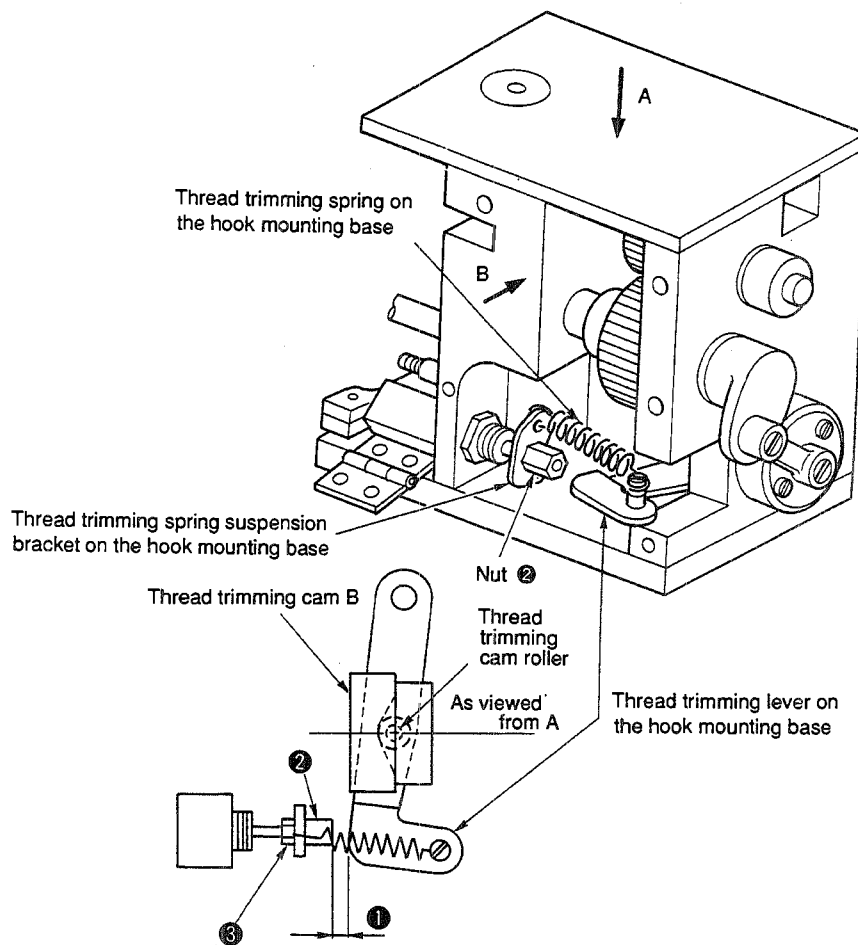

Fig. 16-1
- When the thread trimming cam is in the state as illustrated in Fig. 16-1 (recess on the thread trimming cam is brought to the lower side), clearance ① of 1 mm should be provided between the thread trimming cam and the retracting side of the thread trimming cylinder that is in its stroke end.